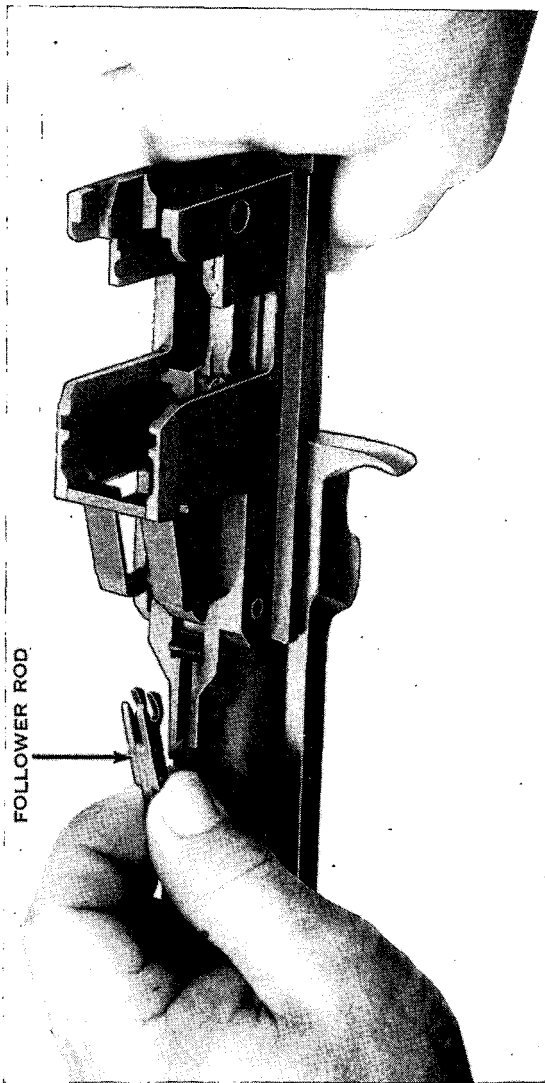

Figure 8. Removing the follower rod and operating rod spring.
a. Place the barrel and receiver group on the table with the sights down, muzzle pointing to the left. Locate the follower rod. With the thumb and forefinger of your left hand, grasp the follower rod and disengage it from the follower arm by moving it toward the muzzle. You may have to lift up on the follower assembly. Remove the follower rod and operating rod spring by withdrawing them to the right (fig. 8). Do not separate these parts.